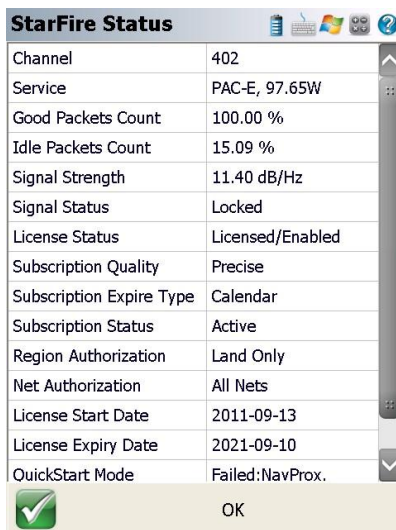

Figure 45: StarFire Status
6. On the **StarFire Status** dialog (refer to Figure 45), view the StarFire parameters.